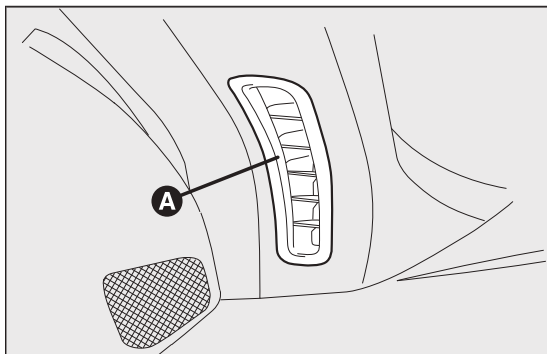

fig. 26
**A** Fixed diffuser for side window fig. 26.